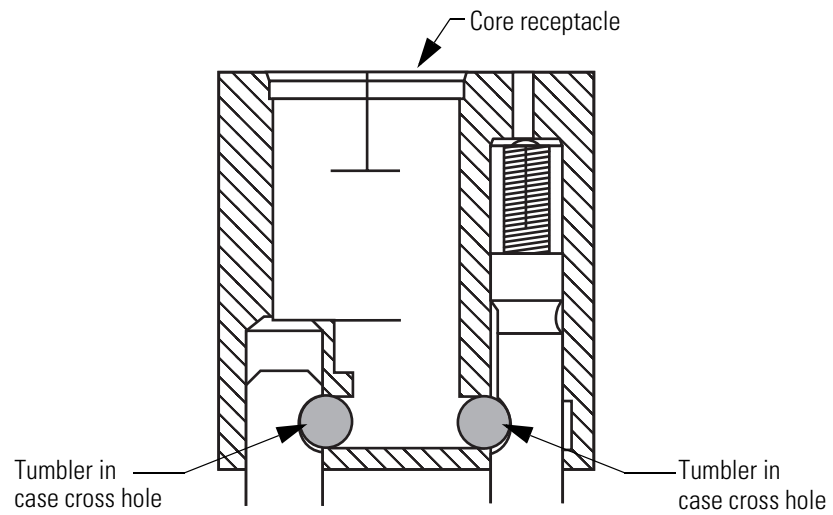

Figure 2.14 Pushing the tumblers into position (side, cross-section view)
3. Turn the case upside-down. Drop the tumblers into the core receptacle and push the tumblers into the case cross holes, as shown in Figure 2.14.